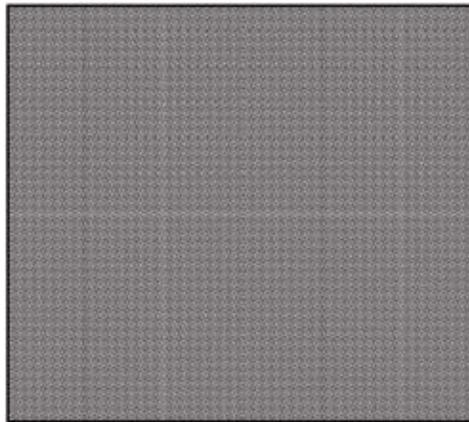

Fig. 3
4. Apply Sto finish with a stainless steel trowel to a rough thickness slightly more than the largest aggregate size. Use the trowel to scrape the material down to a uniform thickness no greater than the largest aggregate size. Achieve the final texture by floating with the trowel in a figure eight motion (Fig. 3). Use a plastic float for "R" (rilled texture) finishes, including Sto Swirl Finish.